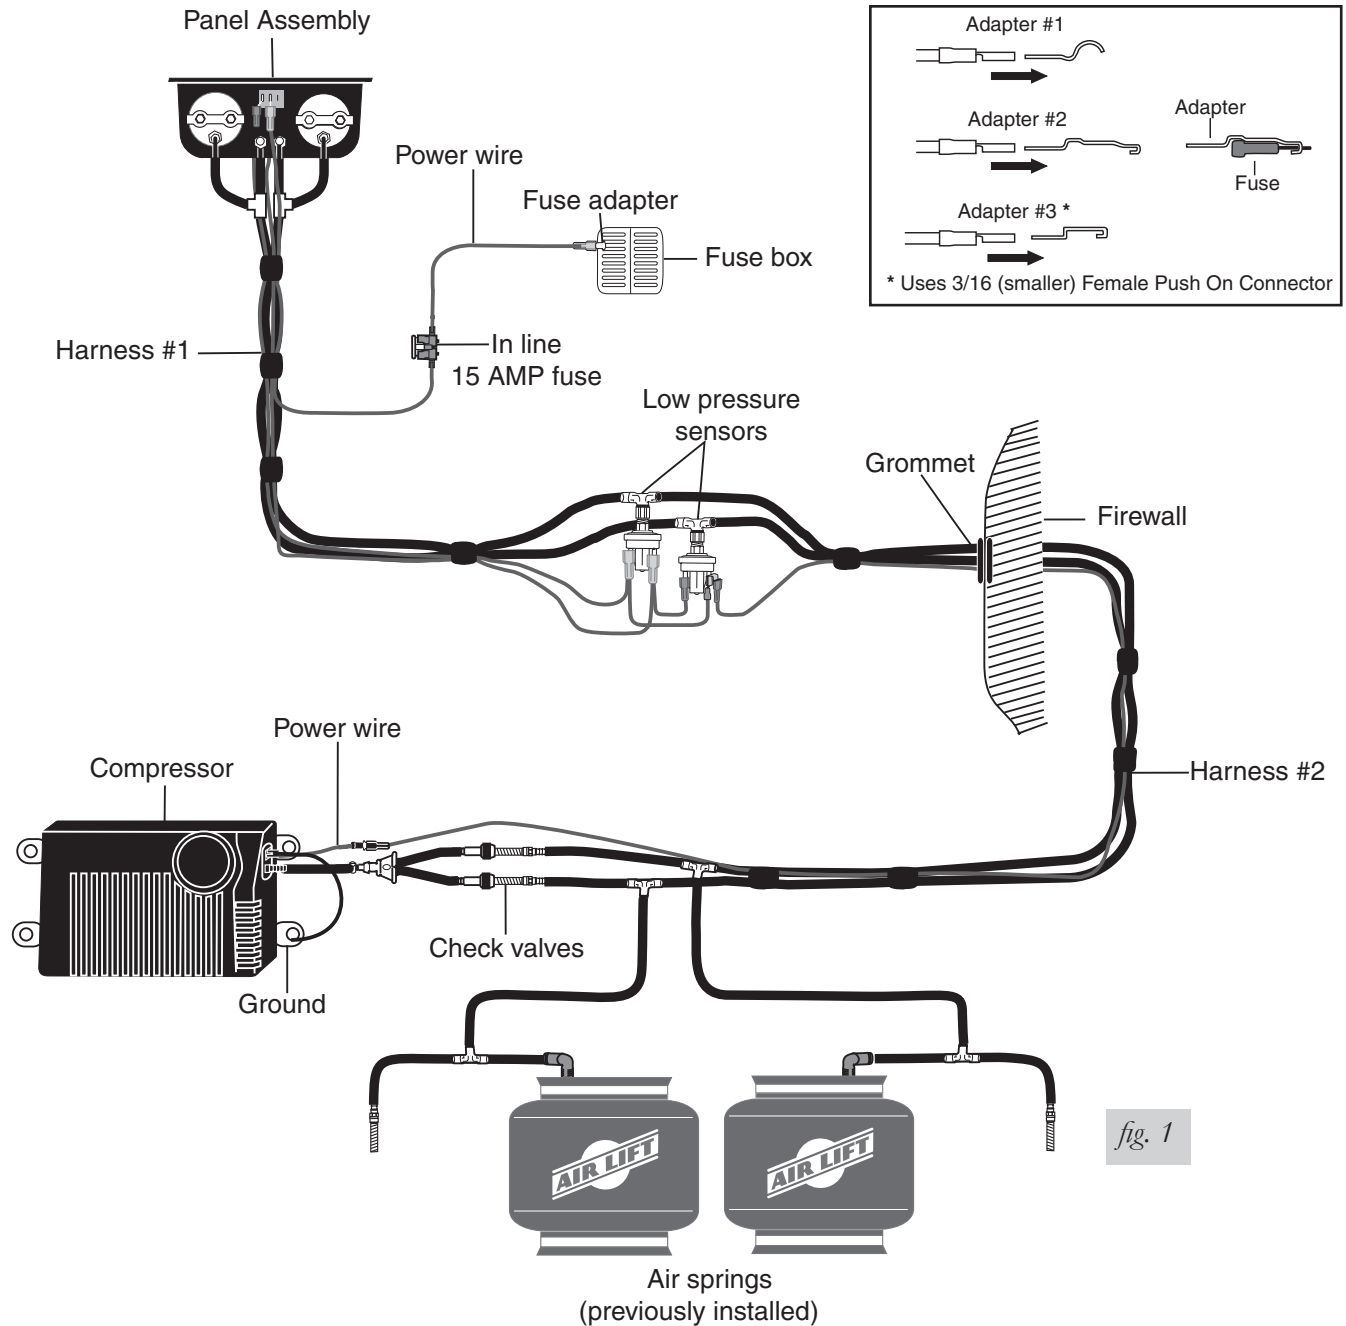

fig. 1
Attach the ground wire to one of the screws (fig. 1).
5. Connect the check valves and power wire on harness #2 to the "Y" assembly as shown in fig. 1. Do not overtighten the check valve connector. Hand tight is sufficient.
8. The next connection is between each air spring and the air line "T" fitting located just ahead of the check valves in harness #2 (fig. 1 and 7).
- b. Install the provided "T" fittings (fig. 1) by pushing the air line into each leg of the "T" until you feel a definite "click". Each line should go in 9/16".
- c. Connection to the fuse terminal will depend on what type of fuse your vehicle uses. If your vehicle uses the barrel type fuse, use adapter #1. If you have the standard spade type fuses, use adapter #2. Many late model vehicles use a smaller spade type fuse which requires adapter #3 (see inset with fig. 1). If adapter #1 or #2 are used, it will be necessary to cut off the 1/4" female connector attached to the power wire and crimp the smaller 3/16" female connector supplied with this kit.
- d. Ground the black wire to an adequate ground. Use the additional wire and connectors supplied if longer leads are needed (fig. 1).